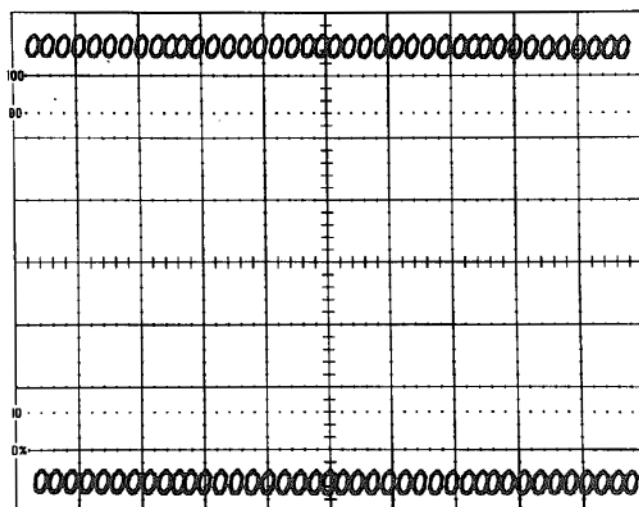

Fig. 4-3. Readout display with Q3416 removed.
d. CHECK—CRT display for two rows of zeros, 40 zeros to a row with no overlap. The two rows of zeros should be located vertically in the middle of the top and bottom divisions of the graticule (see Fig. 4-3).